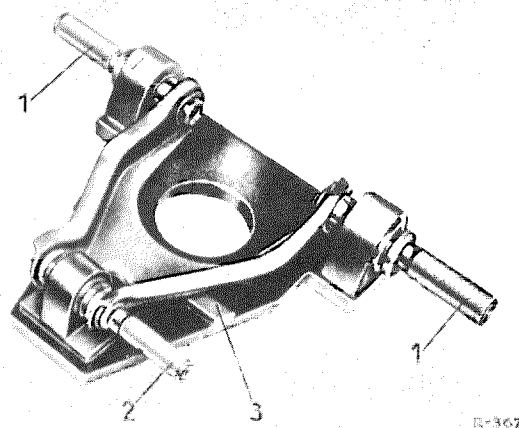

Fig. 35 — 5/5
11. Check the upper control arm for distortion, using Alignment Gage 120 589 04 21, and check the alignment of the threaded bores (Fig. 35 — 5/5).